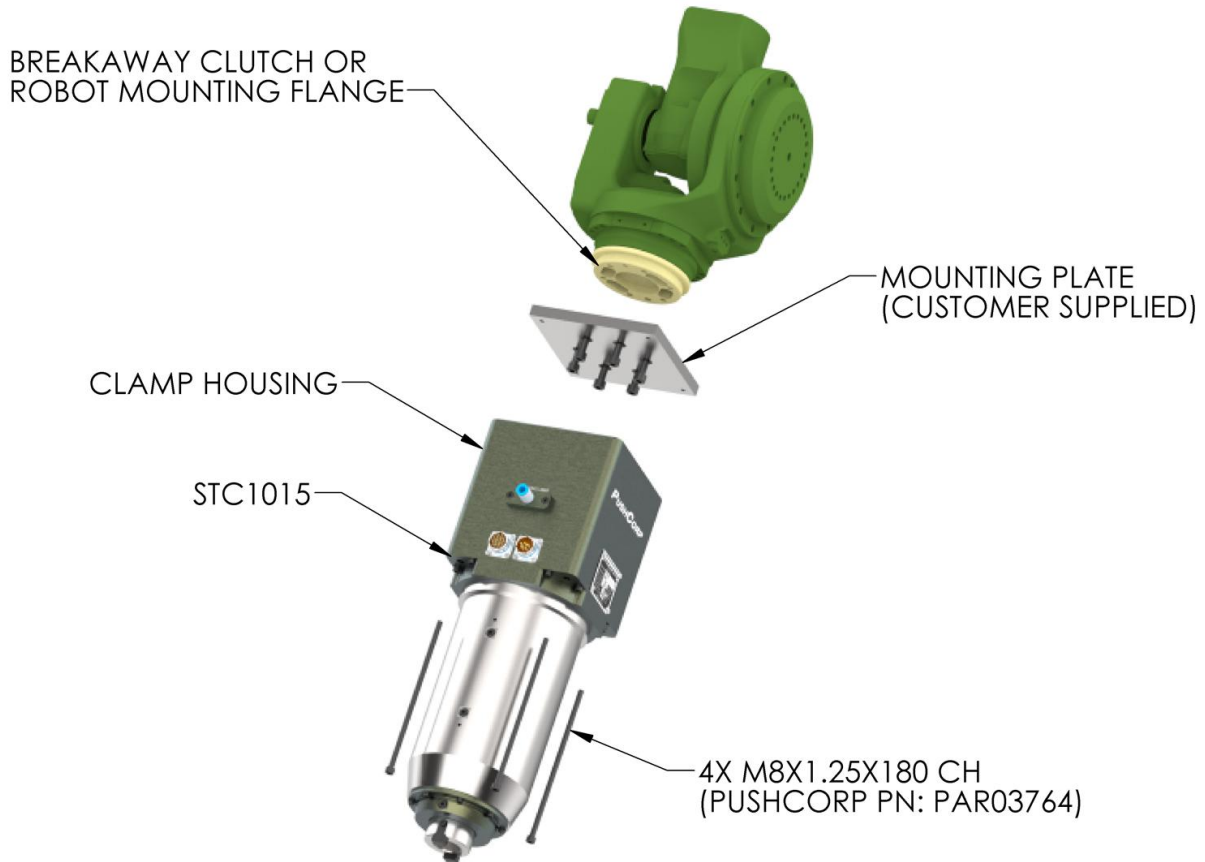

FIGURE 3: STC1015 DIRECT MOUNTING
To mount the STC1015, first attach the Mounting Plate to the Robot Mounting Flange or to the Breakaway Clutch, per the manufacturer’s specifications. Once the Mounting Plate is secured, place the STC1015 against the Mounting Plate and install (4) four, M8x1.25X180mm, Socket Head Cap Screws. (See Figure 3.) Tighten the fasteners to the torque specified in Section 4.0.